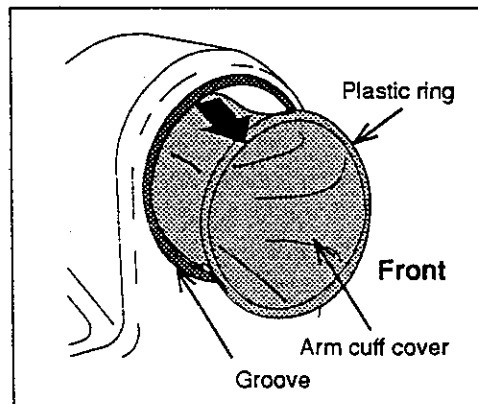

Figure 5-3. Arm cuff cover (3/6)
- 1 Detach the plastic ring at the front of the arm cuff cover from the groove. (See Figure 5-3.)